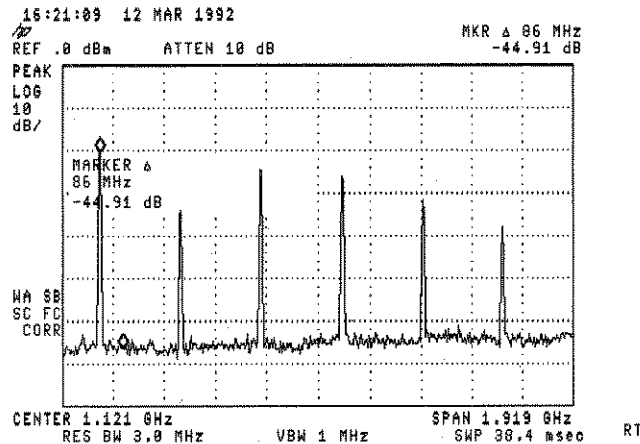

Figure 3-14. Using the Marker to Peak/Peak Function
5. The **MARKER →PK-PK** softkey can be used to find and display the frequency and amplitude difference between the highest- and lowest-amplitude signals. To use this automatic function, press **(MKR→)**, **More 1 of 2**, **MARKER →PK-PK**. See Figure 3-14.